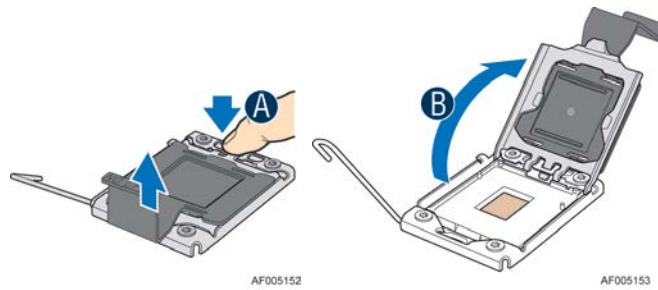

Figure 39. Installing Processor – Open the Load Plate
3. Open the load plate, see Figure 39.